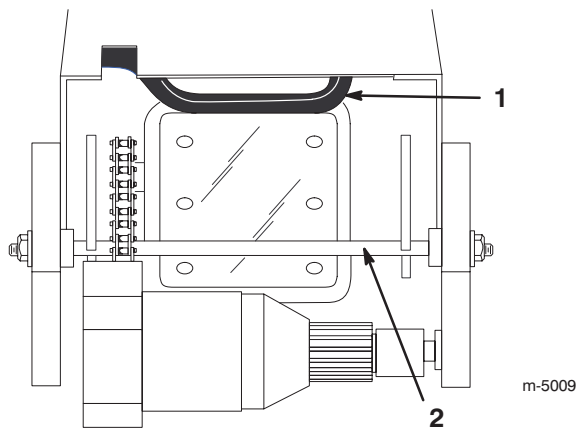

Figure 3
8. Push the latch arm to release the axle (Fig. 3).
9. Pull up on the axle while holding in the latch arm (Fig. 3).
10. Continue pulling the axle forward until the latch rod springs into the locked position (Fig. 3).